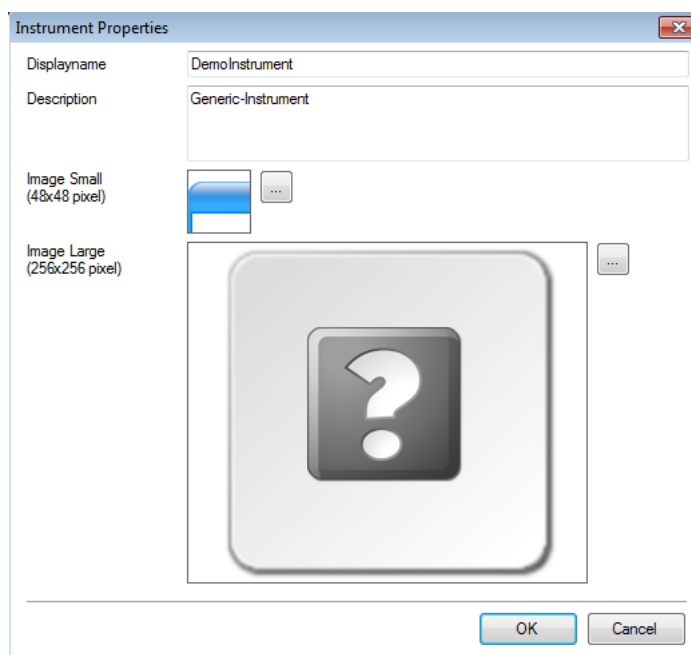

Figure 3-47. Properties of a generic instrument
2. From the shortcut menu, select **Instrument Properties...** to open the **Instrument Properties** dialog. See Figure 3-47.